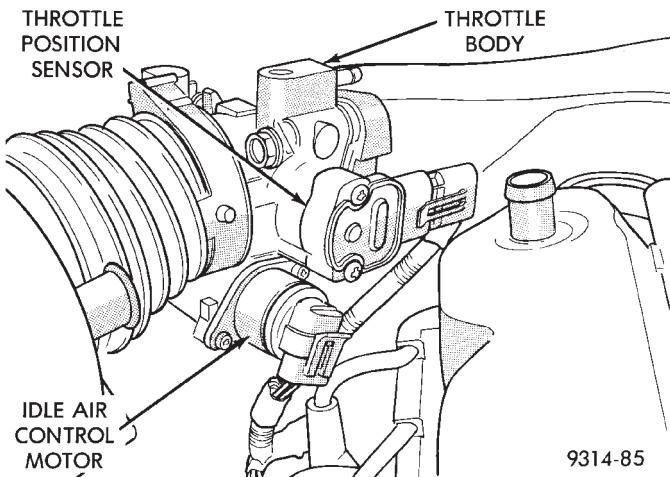

Fig. 60 Throttle Position Sensor—3.3L Engine
The TPS attaches to the throttle body (Fig. 60).
- (1) Disconnect the TPS electrical connector (Fig. 60).
- (2) Remove the TPS mounting screws.
- (3) Remove the TPS.